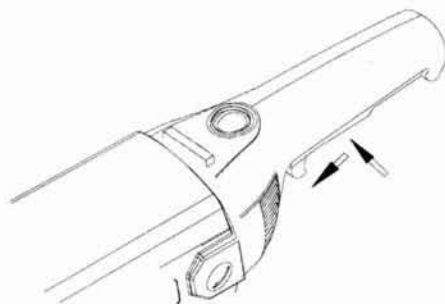

Figure 4
- 2) Start the tool by pushing forward on the switch, then pressing the button down slightly.(figure 4)